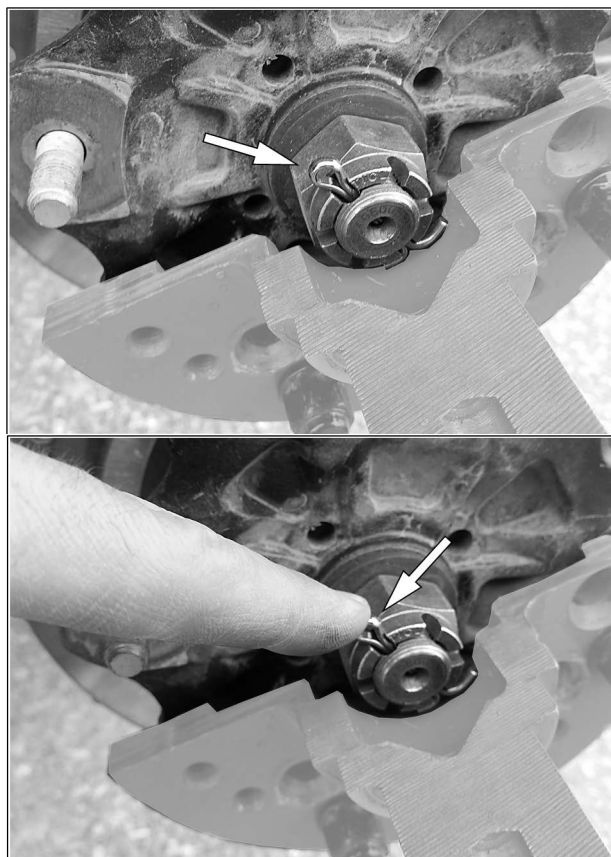

Fig. 19
9. Modify position of cotter pin to avoid interference with track system hub during installation. There must not be any resistance when track system is installed on vehicle's wheel hub. See Fig. 19